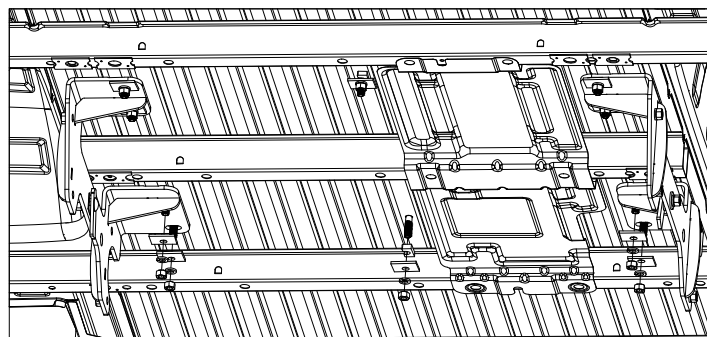

Figure D6: View under bed from rear of truck. (Frame & U-bolts not shown.)
- 6. Install hardware on forward mounting rail.** Under the bed install an offset square washer, 1/2" lock washer, and 1/2" finish nut on each of the bolts, see Figure D6. Place the U-shaped spacer. Hand tighten hardware.